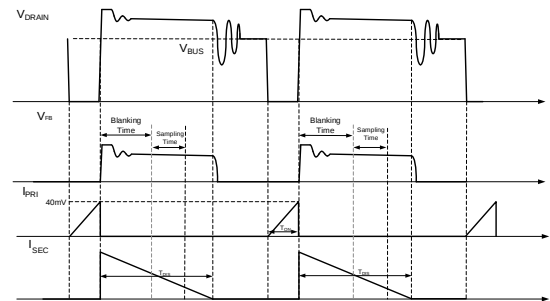
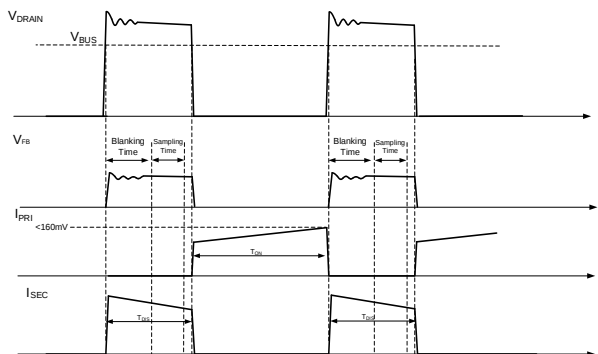

Fig.5 FB Sampling in DCM
Fig.6 FB Sampling in CCM
In order to achieve the primary side constant voltage control, the output voltage is detected by measuring the auxiliary winding voltage using the FB pin during the secondary side output diode conduction period. As shown in Fig.5 and Fig.6, When the secondary-side diode is conducting, the FB voltage can be calculated using equation (1).
Fig.5 shows the FB sample control in discontinuous conduction mode (DCM), Fig.6 shows the FB sample control in continuous conduction mode (CCM).
The SQ33604A regulates the primary side MOSFET switching to ensure a peak current always $\geq V_{CS_MIN}/R_{CS}$ in PSR mode, and will start sampling the auxiliary-winding voltage after the power MOSFET is turned off. A blanking time is added to avoid measurement during the ringing caused by the leakage inductance. To guarantee long enough FB sample period, the output diode current conduction time (T_{DIS} in Fig.5 and Fig.6) should always be longer than 600ns in PSR 400kHz mode, and be longer than 800ns in PSR 250kHz mode.